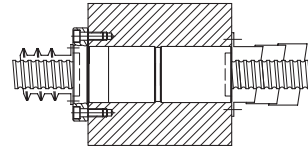

Fig. 3.4 Shaft protection with telescopic or bellows covers
- e) In environments contaminated by dust or metal shavings, it is advisable to protect ballscrews by applying telescopic or bellows covers (see Fig.3.4).